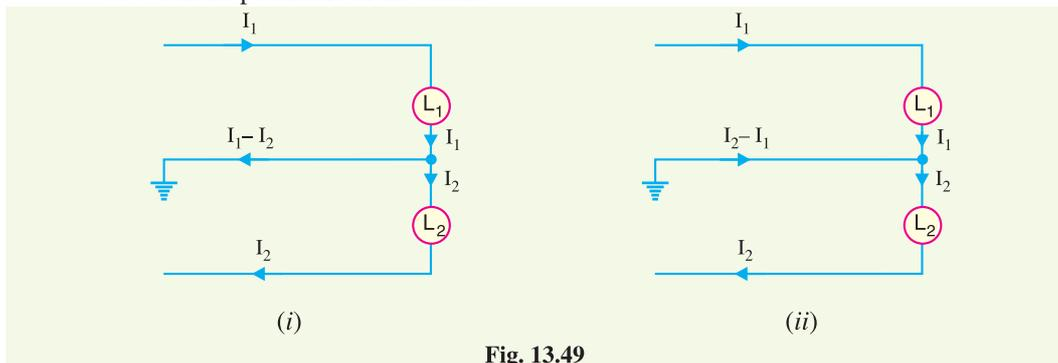

Fig. 13.49
- If the load on the positive outer ( $I_1$ ) is greater than on the negative outer ( $I_2$ ), then out of balance current  $I_1 - I_2$  will flow in the neutral wire from load end to supply end as shown in Fig. 13.49 (i). Under this condition, the potential of neutral wire will no longer be midway between the potentials of the outers.
- If the load on the negative outer ( $I_2$ ) is greater than on the positive outer ( $I_1$ ), then out of balance current  $I_2 - I_1$  will flow in the neutral from supply end to load end as shown in Fig. 13.49 (ii). Again, the neutral potential will not remain half-way between that of the outers.